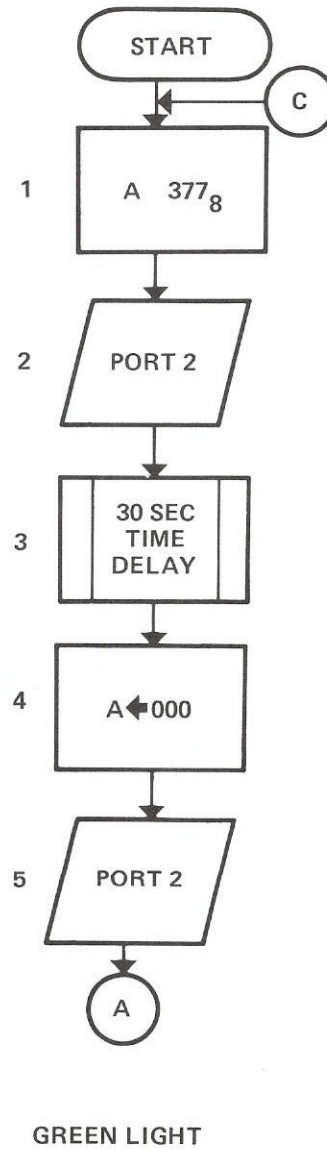

Figure 2. Basic Flowchart
*The Flowchart.* The following basic flowcharts shown in figures 2 and 3 represent one possible method to solve this problem. Note the new symbol that stands for a predefined process. The time delay flowchart is for a basic timer, and the data for each time delay cycle will have to change.